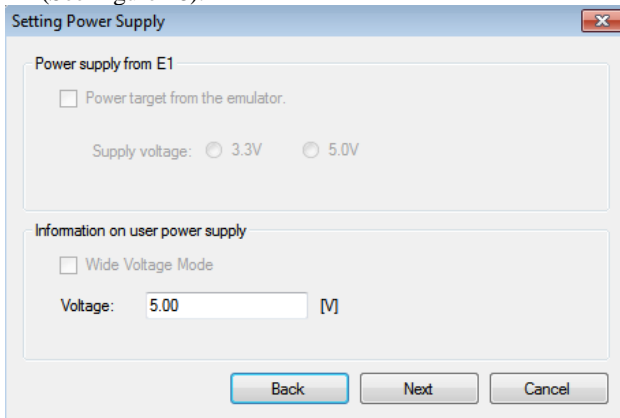

Figure 18. Setting Power Supply
5. Keep the default setting for power supply and click **Next** (See Figure 18).